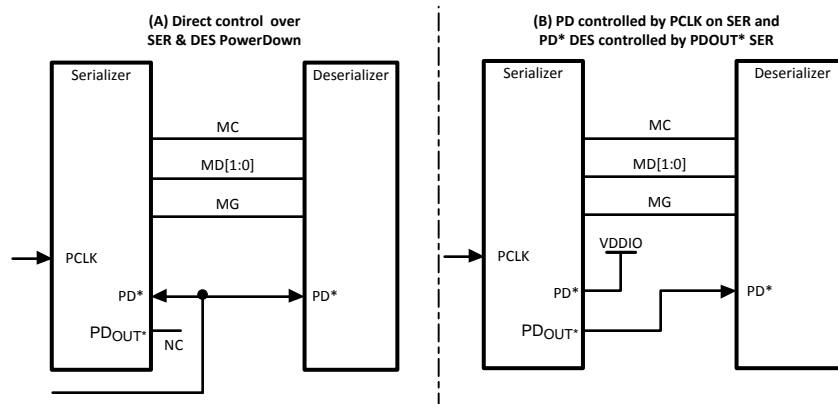

Figure 13. Power Down Control Options
Multiple configurations for PowerDown are possible with the chipset. These depend on the operating mode and configuration chosen. Two possible applications are shown in Figure 13. RGB Modes are shown in (A) and (B). "A" provides PD* input pins on both devices, this may be common or separate. In (B), the SER is controlled by the PCLK STOP feature and a PDOUT* pin is provided to control the DES. When using the SER PDOUT* mode, the V_{DDIO} rails of the devices should be the same to meet the PD* input thresholds of the DES.